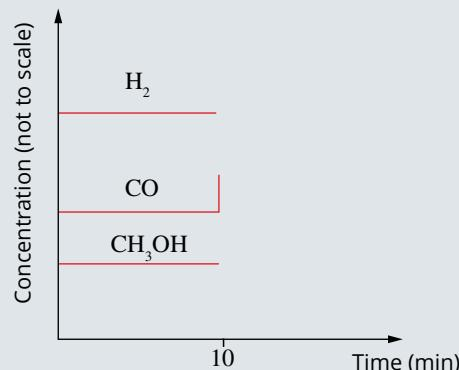

FIGURE 8.8.1 Concentration versus time graph for the production of methanol.
- d As part of an investigation of this process, the concentration of a mixture of CO, H₂ and CH₃OH was monitored continuously. The mixture was initially at equilibrium at 400°C and constant volume. After 10 minutes, additional CO was added to the mixture, as shown in Figure 8.8.1.